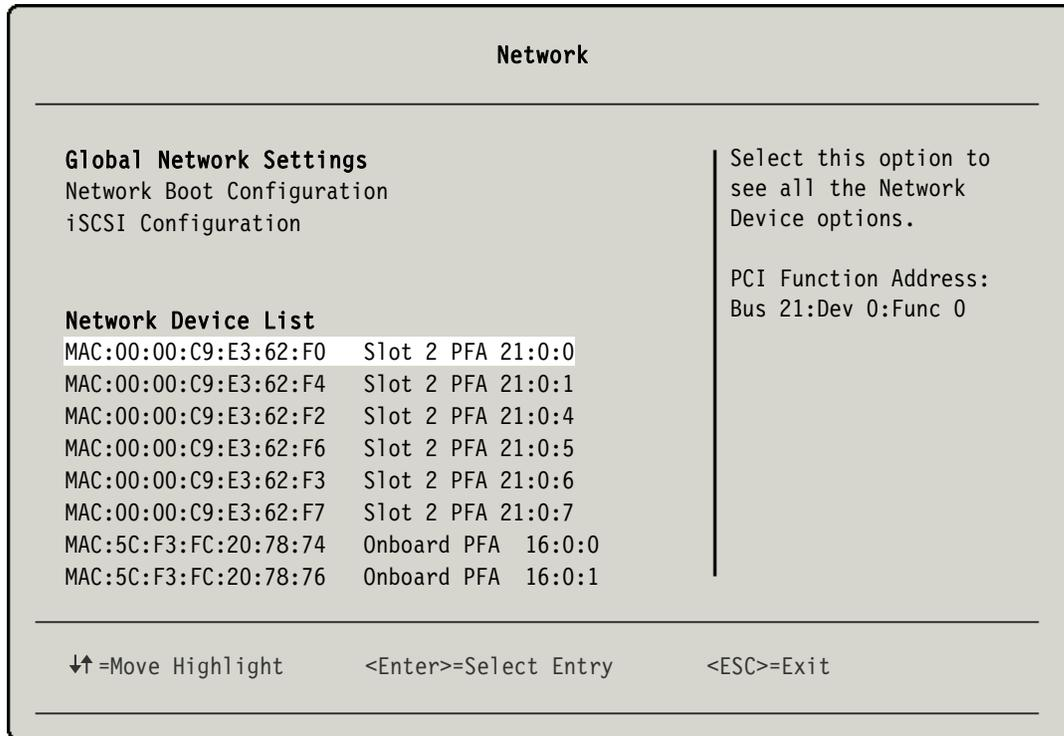

Figure 10-35 Network configuration panel
5. In the Network panel, which shows two Emulex 10 Gbps ports (Figure 10-35), select the first port to configure the vNICs, and then press Enter.
9. Repeat the steps in this task to configure vNIC functions on the second 10 Gbps physical port shown in Figure 10-35 on page 276.